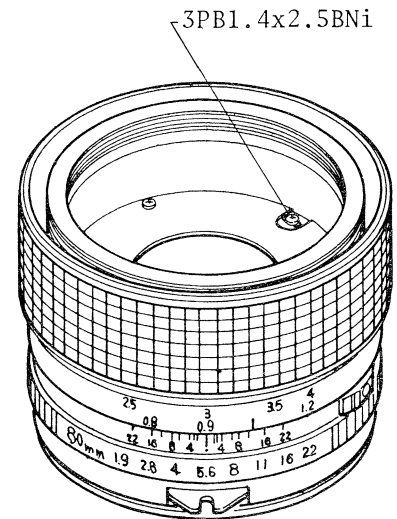

Fig.4
- 2) Loosen three 3PB1.4x2.5BNi screws as shown in Fig. 4.